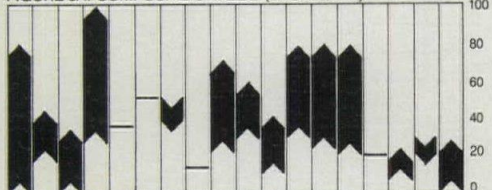

FIGURE 3B: PERCENT SOUTH GLASS AREA
**Solar strategies:** The vast majority of the sample buildings shown in Fig. 1, especially the nursing homes, profited from solar access by reorienting to the south. In the design process, buildings were elongated on the east/west axis, fanned out, or sawtoothed in an effort to relocate the bulk of the fenestration to the south (Fig. 3B). There was also near universal use of both fins and overhangs to provide external shading.